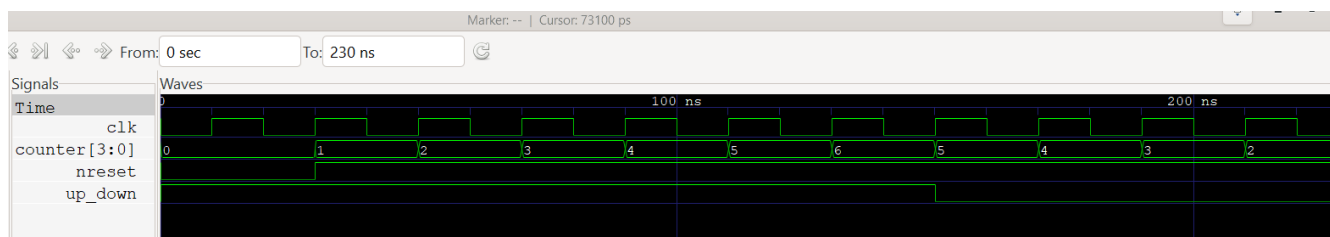

Figure 15. Simulated waveforms in GTKWave
8. Users can observe the waveforms in GTKWave. See Figure 15